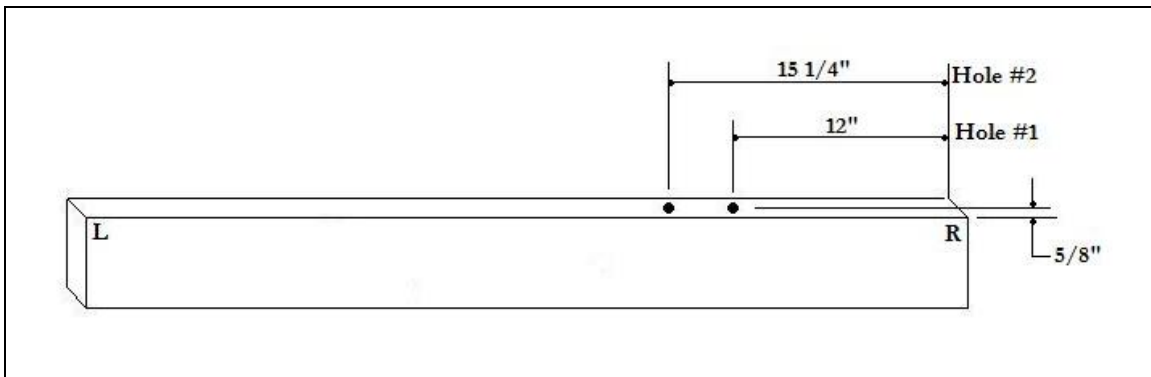

Fig. 1 – Front Treadle Pulley Support Crossmember Holes
2.) Prior to reinstalling the Cross Members, drill the holes required, as shown in Figures 1 and 2. As they are not all the same size, please refer to the accompanying charts for the correct bit size to use for each hole.